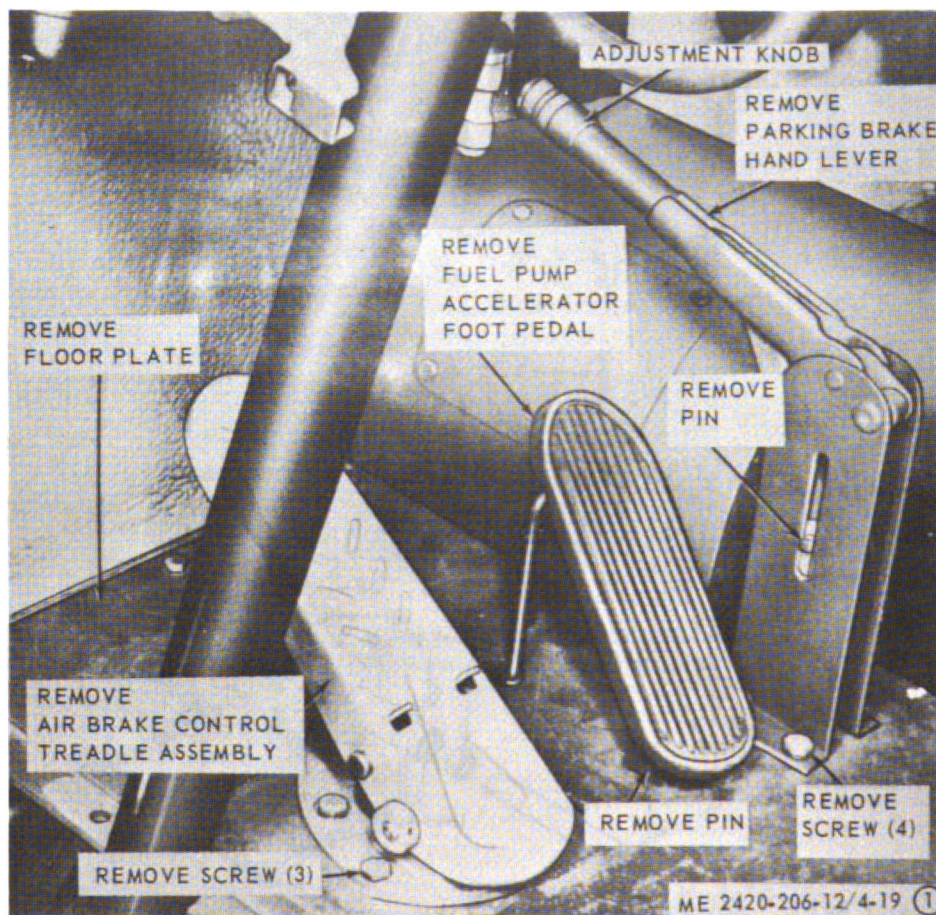

Figure 4-19. Parking brake hand lever and cable, removal and installation (sheet 1 of 2).
(1) Remove rock guard (para 4-58).
(2) Remove parking brake hand lever assembly and cable as illustrated in figure 4-19.
(1) Install parking brake hand lever and cable as illustrated in figure 4-19.